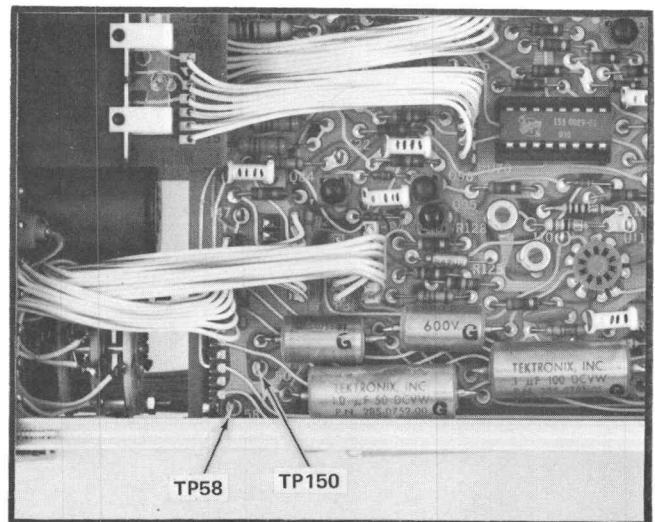

Fig. 2-2. Location of TP 58 and TP 150.
Spare (G)—Spare connector is bused through to the rear connector, A8, and appears on a test point, TP150 (see Fig. 2-2).